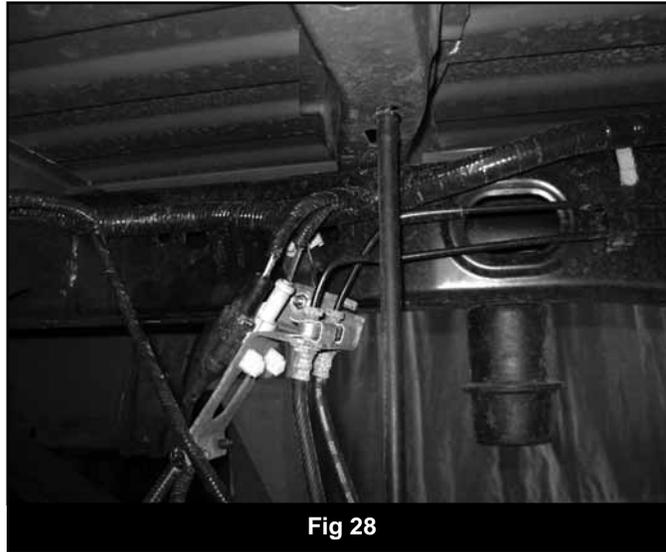

Fig 28
70. Install the provided brake line relocation bracket to the driver's side frame rail with the OE brake line bracket bolt (Fig 28). Torque to 15 ft-lbs.